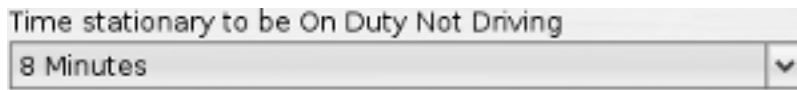

Figure 5.41. Time Stationary to be On Duty Not Driving Setting
2. Under the "GPS Device Settings" section change the "Time stationary to be On Duty Not Driving" setting to the desired value see Figure 5.41, "Time Stationary to be On Duty Not Driving Setting".